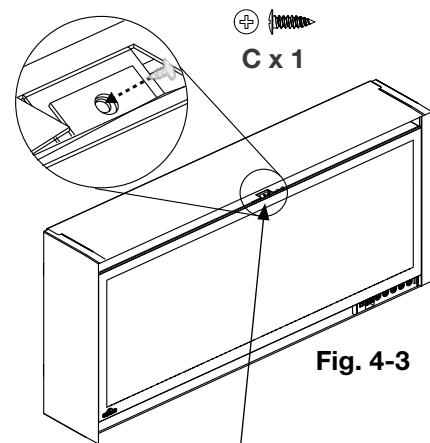

Fig. 4-3
- Secure the top middle section of the front glass to the appliance using a screw (supplied) (Fig. 4-3).